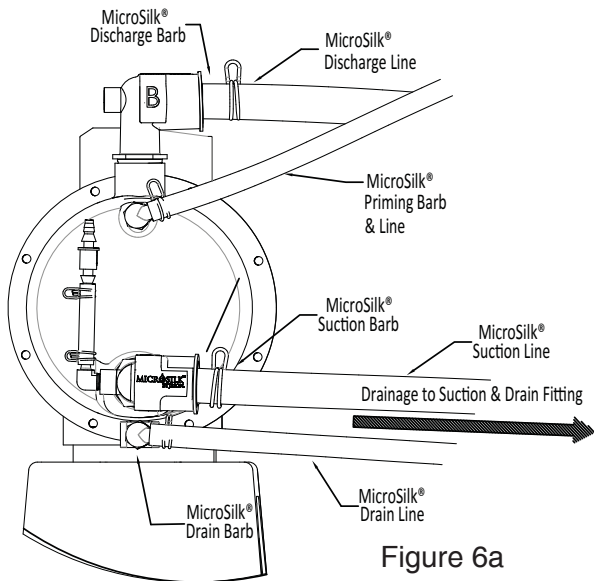

Figure 6a
7. For MicroSilk baths, clamp the plumbing lines to the appropriate barb using the clamps provided. Assure the line will allow proper drainage to the bath fitting. The hose must have a continuous drop from the barb to the fitting. See Figures 6a & 6b